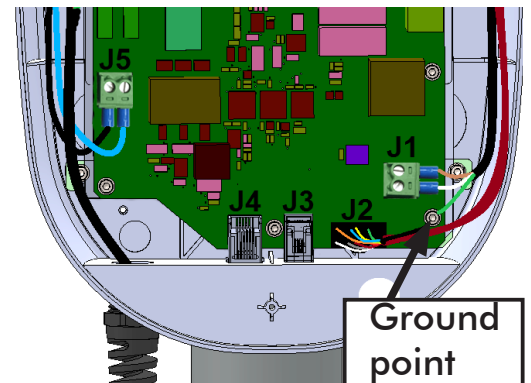

Figure 29
- Disconnect the communication cable connector (Pressing the lock) from J2 connector of the power board as shown in the Figure 29.
- Disconnect the INV power cable (2 wires with pin terminals) from the J1 connector (holding the connector) of the power board using Jewel screw driver as shown in Figure 29.
- Disconnect the GND ring terminals of both INV cable and communication cable by removing the M3X6 Hex. Socket head cap screw using 2.5 mm allen key from the power board at the location shown in the Figure 29.